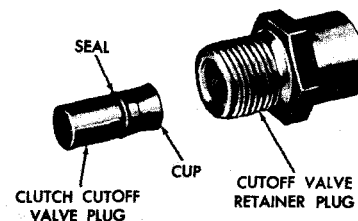

Fig. 6-8. Clutch cutoff valve plug and associated components (hydraulic type)—later model
(2) Remove the clutch cutoff valve plug from the retainer plug. Remove the cup and seal from the valve plug (fig. 6-8).
(3) Complete the disassembly by following instructions in para 6-2a(5) through (11), above.
c. Assembly (items 17 thru 22, B, foldout 15)
(1) Follow instructions in para 5-2c(1) through (9), above.
(2) Install seal ring 19, into the groove on plug 18. Install cup 20 onto the projection on plug 18. Install the valve plug, with cup and seal, into retainer plug 22. Fig. 6-8 shows the proper relation of parts.